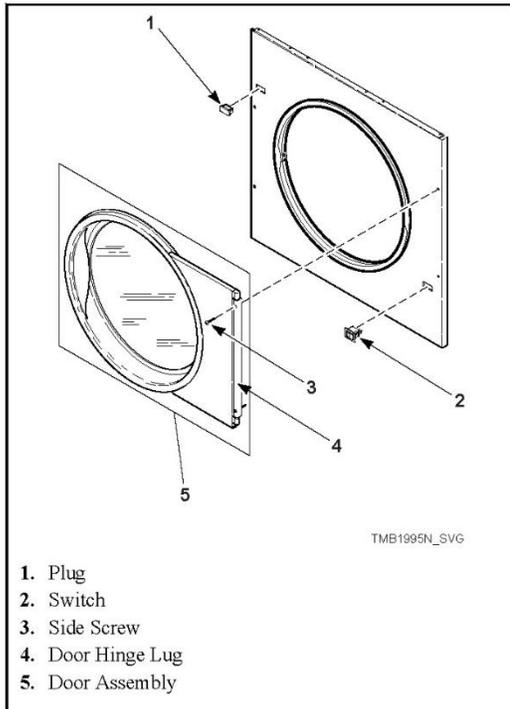

Figure 8
4. Remove four front panel screws. Refer to *Figure 7*. Keep door hinge cams in place on door hinge lug. Pull lug and door assembly off as one piece. Refer to *Figure 8*.
5. Remove remaining front panel screws. Refer to *Figure 7*. Disconnect door switch harness from switch. Take off front panel. Refer to *Figure 8*.
6. Exchange switch and plug locations. Depress tabs with an adjustable pliers to remove plug and switch from front panel. Reinstall switch, orienting button toward center of machine. Reinstall plug in switch's previous location. Refer to *Figure 8*.